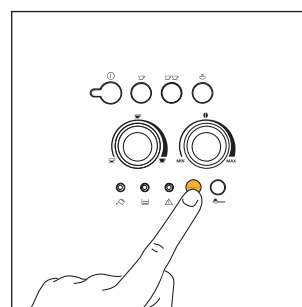

Fig. 14
1)) If, when the machine has just been turned on, a short cup of coffee is required (less than 60cc), use the hot rinsing water to pre-heat the cups (see the suggestion in par. 4.3, point 5). 1) If, when the machine has just been turned on, a short cup of coffee is required (less than 60cc), use the hot rinsing water to pre-heat the cups (see the suggestion in par. 4.3, point 5). If, on the other hand, more than 2/3 minutes have elapsed since the last coffee was made, before preparing **another coffee the infuser must be pre-heated, pressing the  button (Fig. 14).**